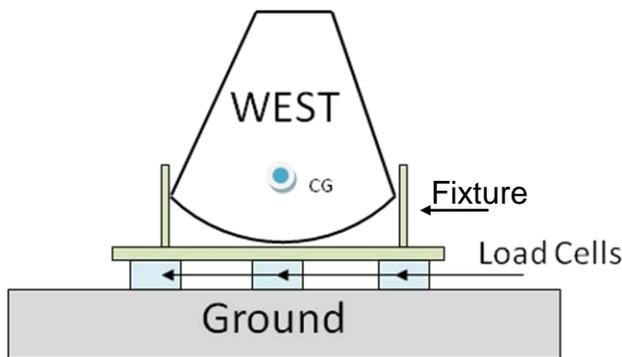
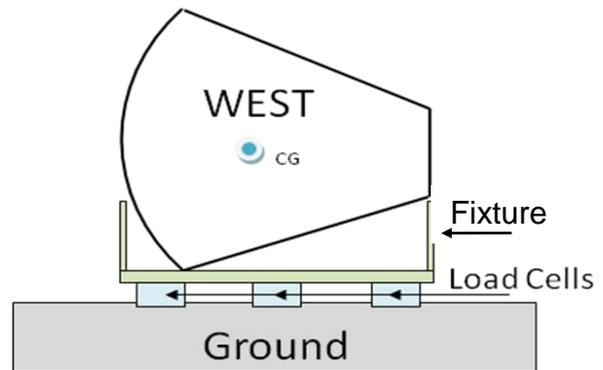

Figure 5: Vertical set-up of WEST
Figure 6: Horizontal set-up of WEST
Noting that WEST is hollow, one anticipates the CG to be located within the three-dimensional volume of the craft. Identifying the CG requires the ability to engineer an experimental set-up, from which to measure the location of the CG for x, y, and z-axes ( $x_{CG}$ ,  $y_{CG}$  and  $z_{CG}$ ). Figure 5 shows the vertical set-up for measuring the  $x_{CG}$  and  $z_{CG}$  and Figure 6 shows the horizontal set-up for measuring the  $y_{CG}$ .
- B. Determining  $y_{CG}$  now requires the horizontal set-up. Recall the orientation of WEST on the fixture by referring to Figures 6 and 8. Figure 10 shows the same experimental set-up of the load cells with different axes.